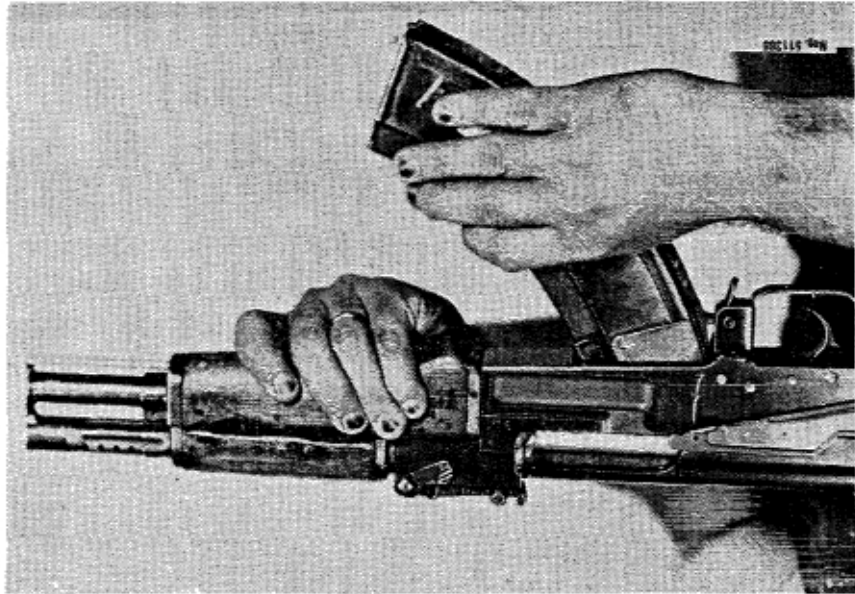

Figure 67. Inserting magazine into the AK-47.
b. Insert the magazine into the receiver, canting it forward (fig 67) so that the lug on the top front of the magazine engages with its recess in the magazine well. Swing the magazine rearward until the magazine catch snaps into place.